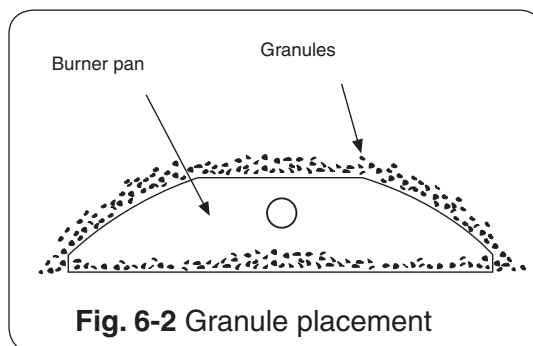

Fig. 6-2 Granule placement
1. Fill the burner pan completely with the granules* (Item 11). See Fig. 6-2. **Avoid spilling the granules on the pilot kit.**
3. Pour a small amount of the granules along the outside edges of the burner pan (Fig. 6-2). This prevents flame diversion.